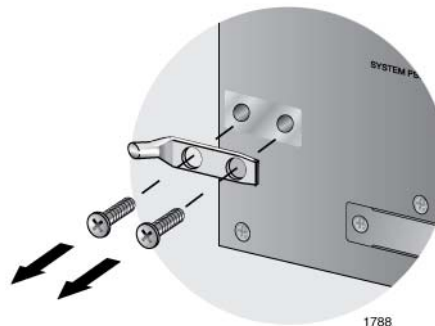

Figure 39. Removing the Grounding Lug
2. Remove the two screws that secure the grounding lug to the rear panel of the chassis, as shown in Figure 39.